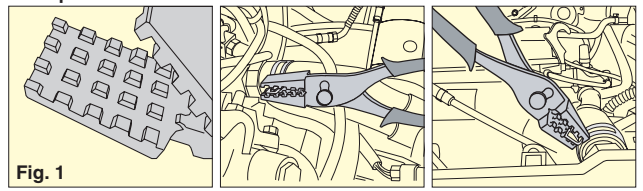

Fig. 1
- The teeth edges are designed for firm grasping, preventing the hose clip from sliding out of the pliers, this is useful in confined or hard to reach areas. (Fig. 1)